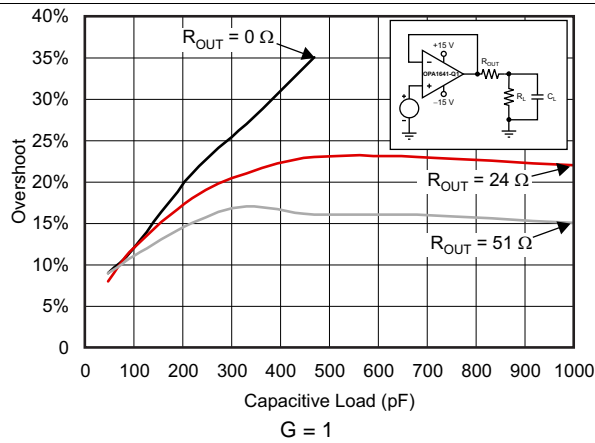
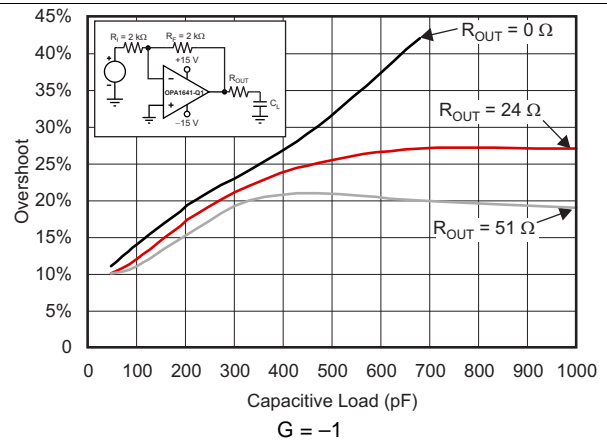

图 19. Small-Signal Overshoot vs Capacitive Load (100-mV Output Step)
图 20. Small-Signal Overshoot vs Capacitive Load (100-mV Output Step)
(1) Full power bandwidth = $SR / (2\pi \times V_P)$, where SR = slew rate.
(2) See Figure 19 and Figure 20.
图 19 and **图 20** illustrate graphs of *Small-Signal Overshoot vs Capacitive Load* for several values of R_{OUT} . For details of analysis techniques and application circuits, see Feedback Plots Define Op Amp AC Performance available for download at www.ti.com